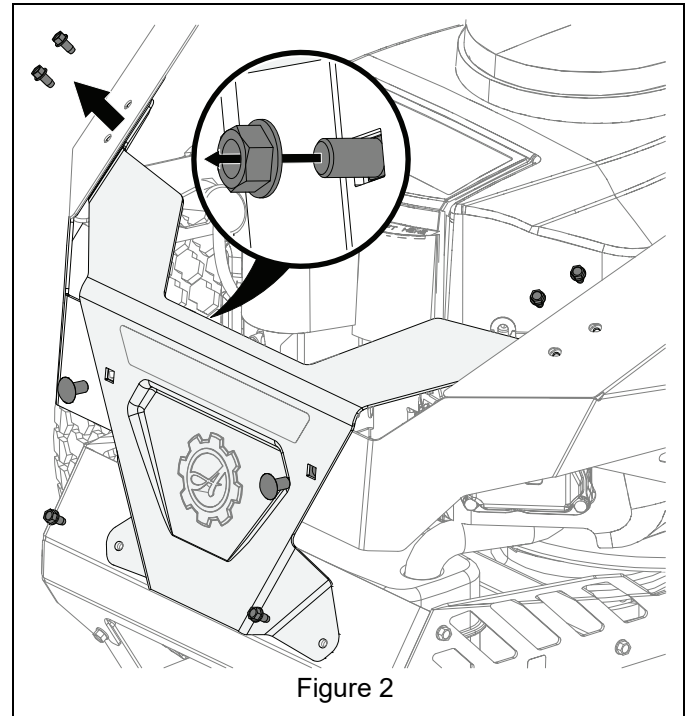

Figure 2
1. Remove and retain six tapping screws and two round head square neck bolts and hex nuts securing rear wrap. See Figure 2.